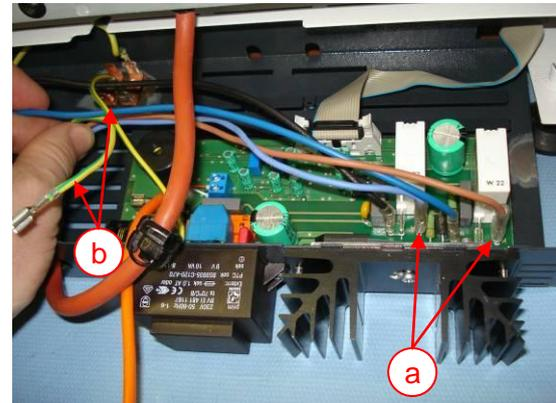

Fig. 27 – unplug heating wire
- Unplug the heating wire from circuit board. (Fig. 27 a)
- Unplug the grounding connector from chassis (Fig. 27 b)
- Heating cable must be connected to the terminals “H” at the circuit board. (Fig 27 a)